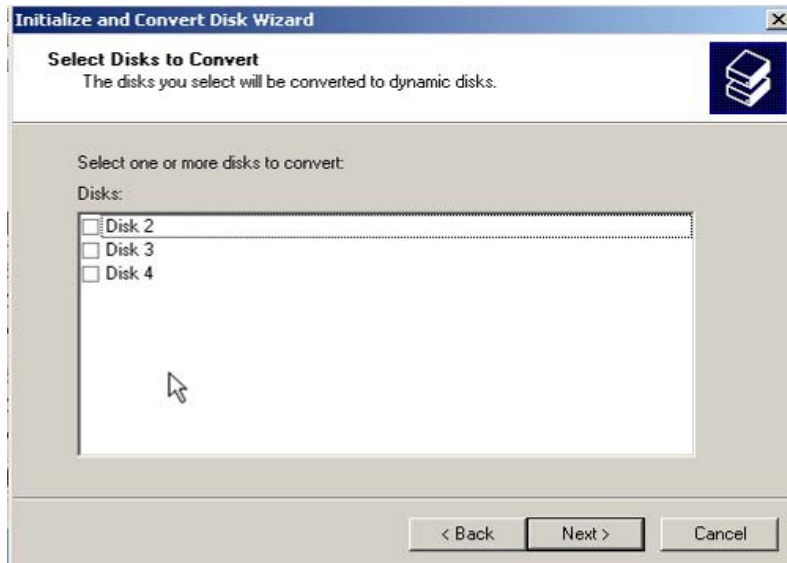

Figure 15
7. Do not select any disk(s) on *Select Disk to Convert*, just click **Next**. (See Figure 15)